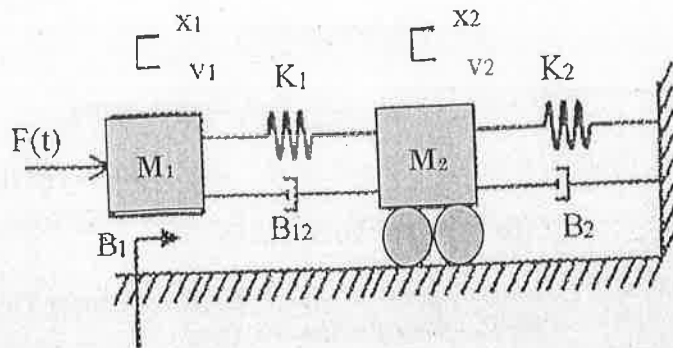

Fig.11(a)
11. (a) Write the differential equations governing the mechanical translational system as shown in figure 11(a). Draw the Force – Voltage and Force – Current electrical analogous circuits and verify by mesh and node equations. (16)